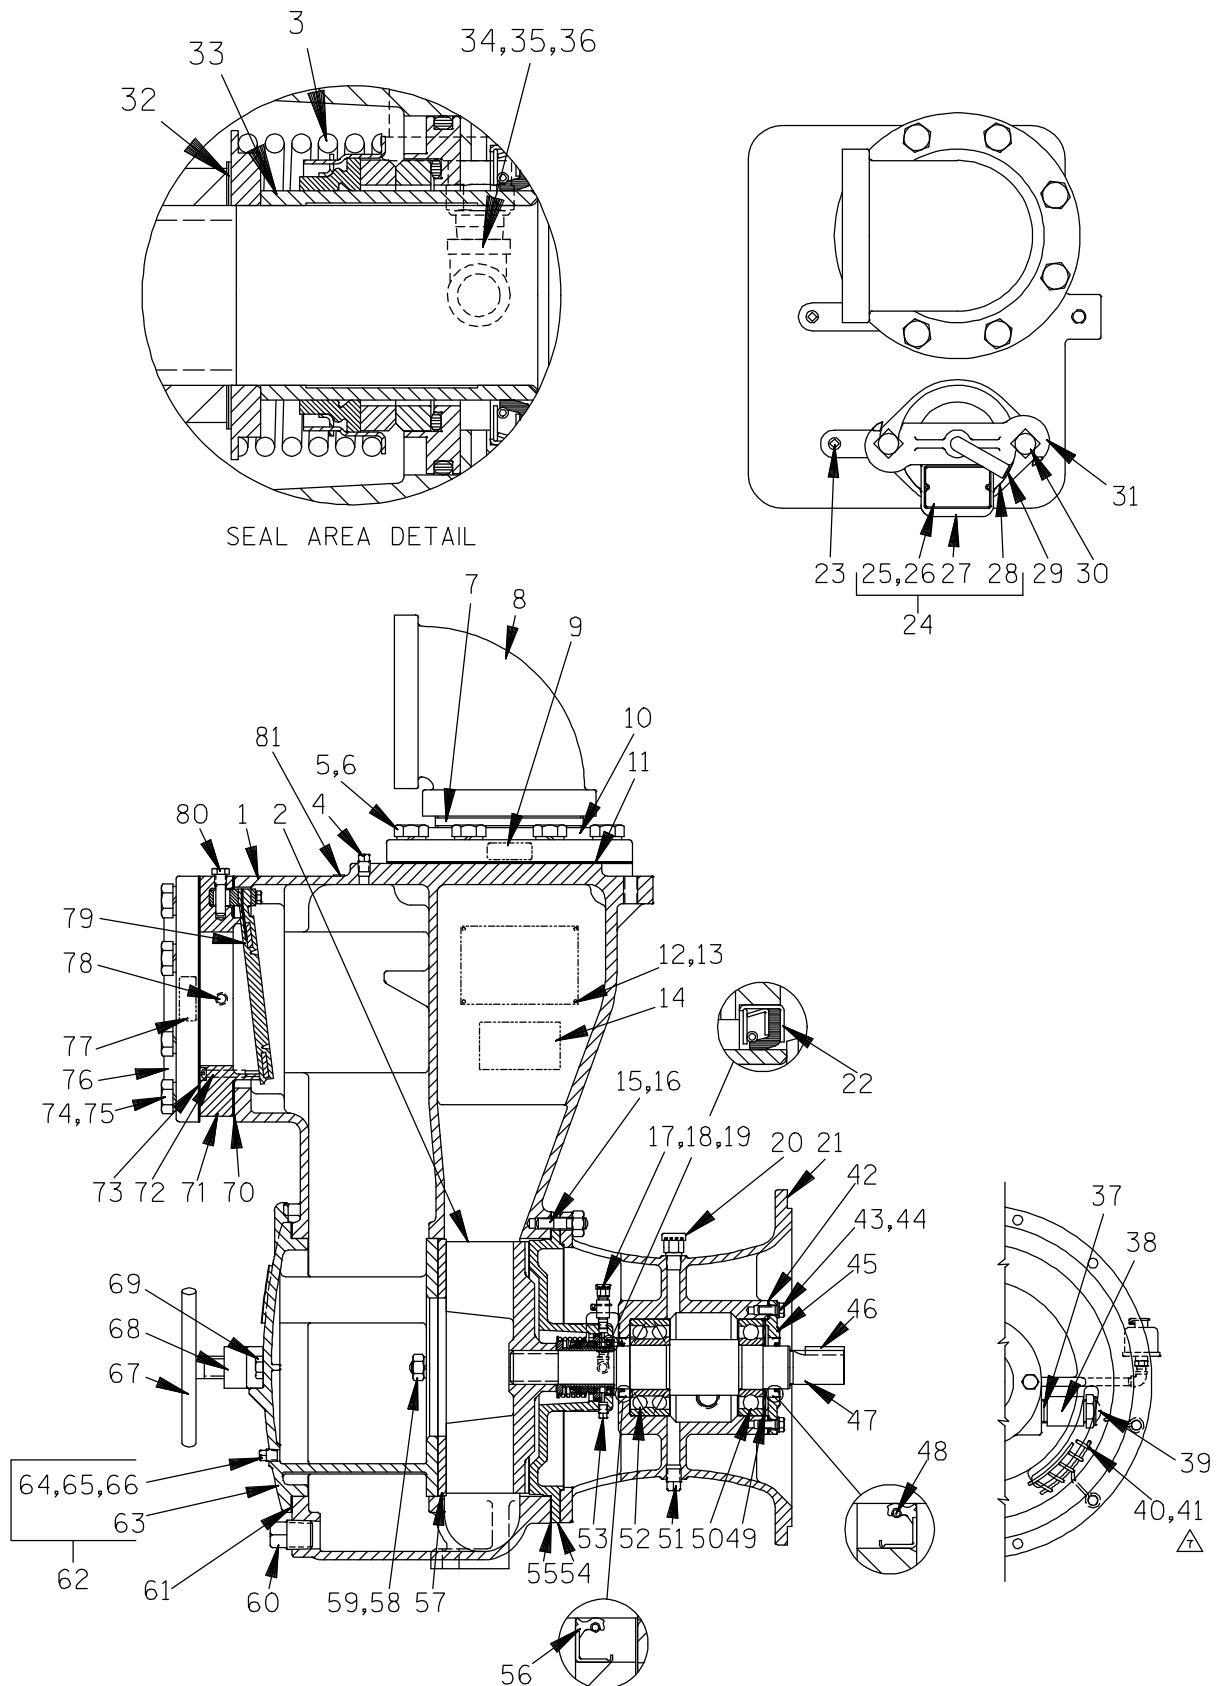

Figure 2. 16C20-(SAE 4/10) Pump End Assembly
(Figure 2)
As the assemblies separate, the flexible portion of the coupling assembly (3) will remain on the shaft. To remove the coupling from the shaft, unscrew the two allen head setscrews from the bushing (2). Screw one of the setscrews into the puller hole on the circumference of the bushing. As the coupling and bushing separate, remove the bushing, and slide the coupling off the shaft. Remove the shaft key (47, Figure 2).